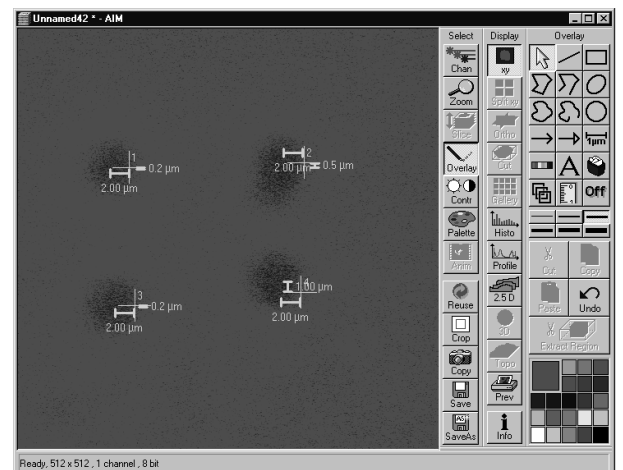

Fig. 5-399 LSM image after bleaching with overlaid distance markers
- Measure the distance between the burned spots and the markers (see Fig. 5-399).